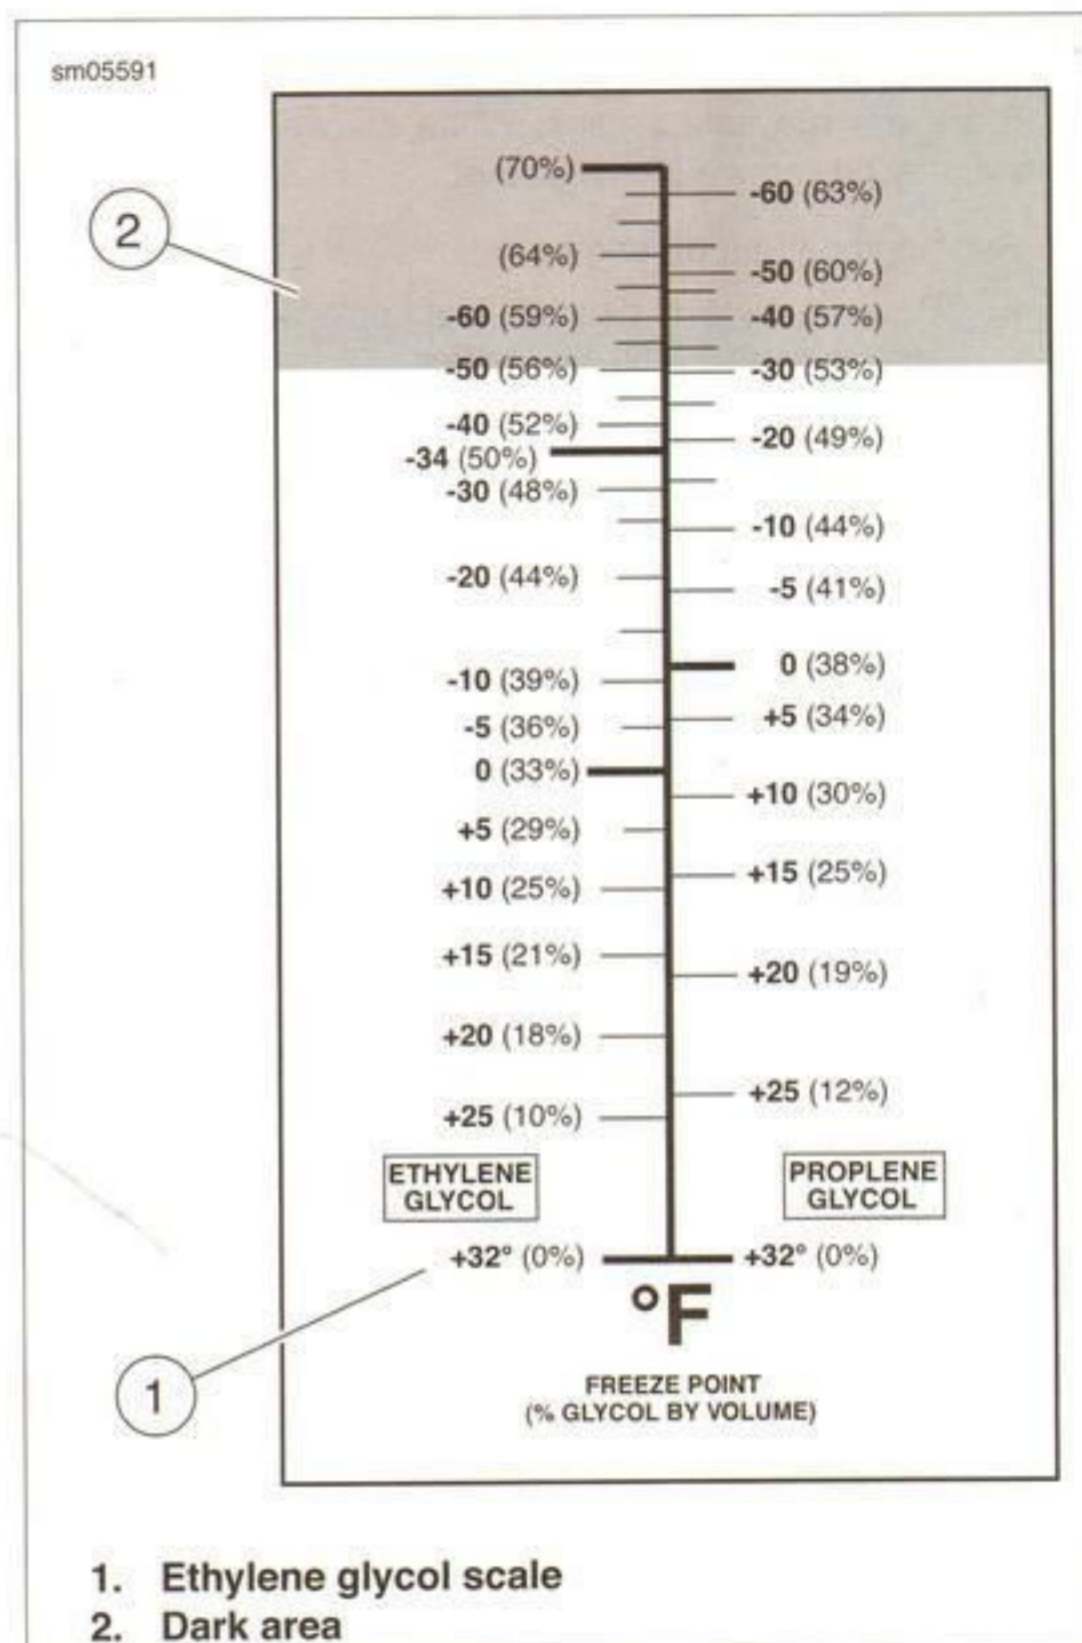

Figure 5-7. Coolant Tester Calibration Scale (Fahrenheit)
4. Drop a few drops of coolant from the filler neck of the radiator on the prism of either the COOLANT TESTER (C) (Part No. HD-26568) or the COOLANT TESTER (F) (Part No. HD-23688).
6. See Figure 5-7. Read the mark on the ETHYLENE GLYCOL temperature scale (1) where the dark area (2) begins. This is the freeze point of the coolant.